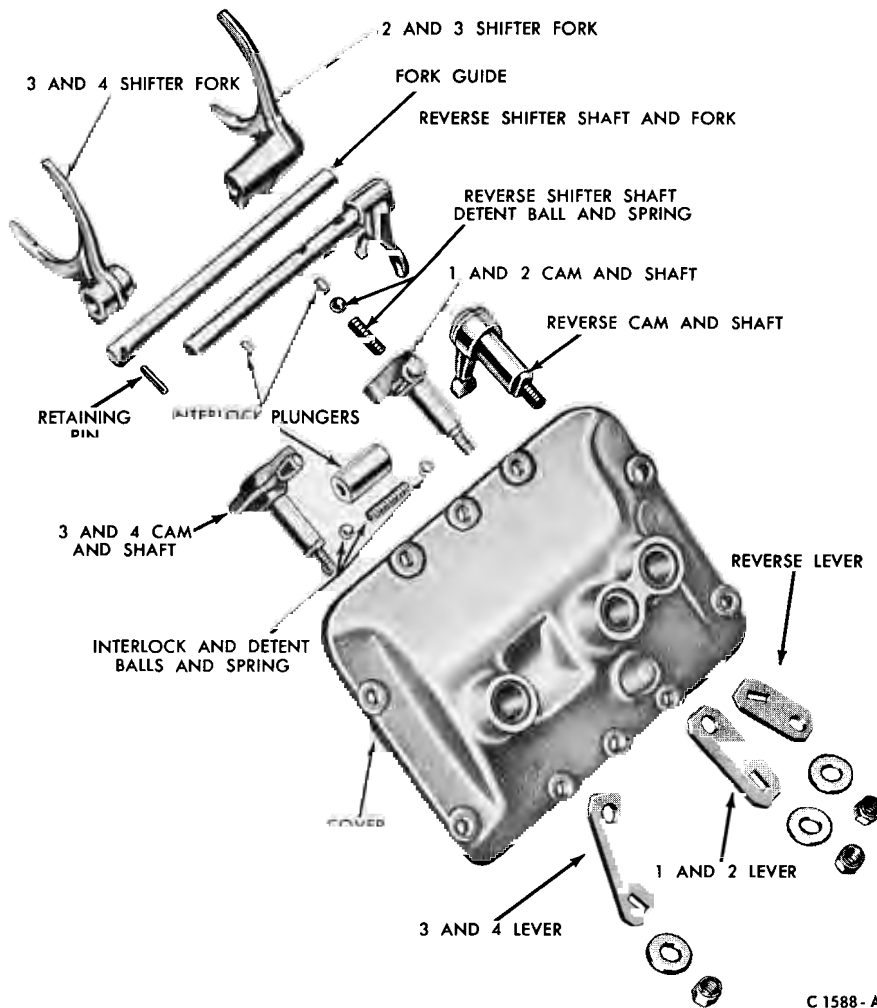

FIG. 12—Gear Shift Cover Disassembled
1. Remove the levers from the cam and shafts (Fig. 12).
9. Place the 1-2 and 3-4-to-reverse interlock pins in the holes in the reverse fork and shaft bosses (Figs. 12 and 13).